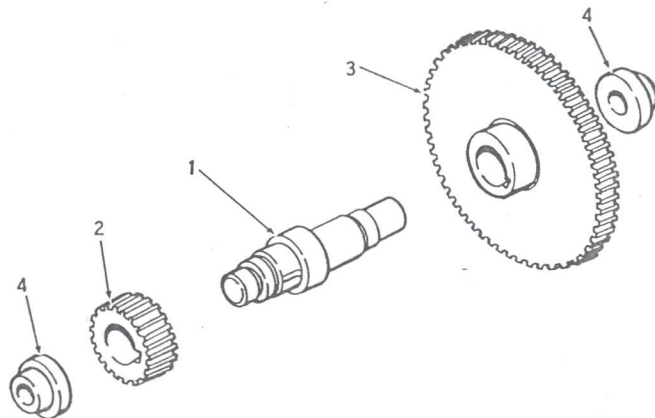

Figure 5-17. Intermediate Shaft Assembly
7. When a hoist is not equipped with a mechanical load brake, an intermediate shaft assembly is used, and should be assembled as follows (see Figure 5-17):